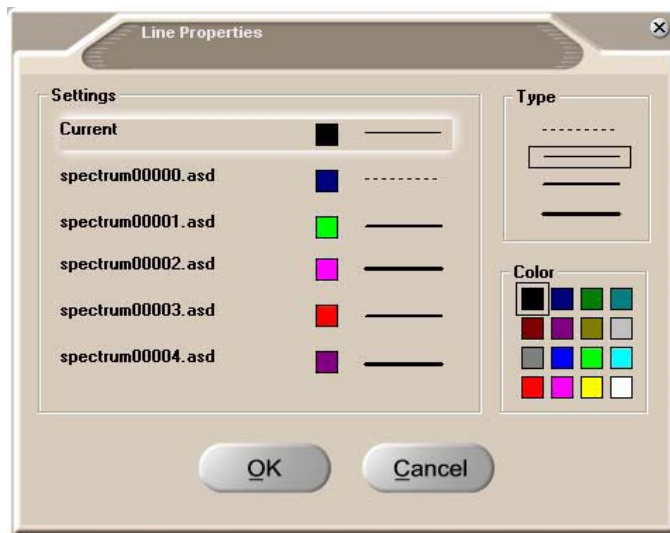

Figure 3-41: Line Properties dialog box
- Step 2 Open the *Line Properties* dialog box using one of the available methods listed above (Figure 3-41).